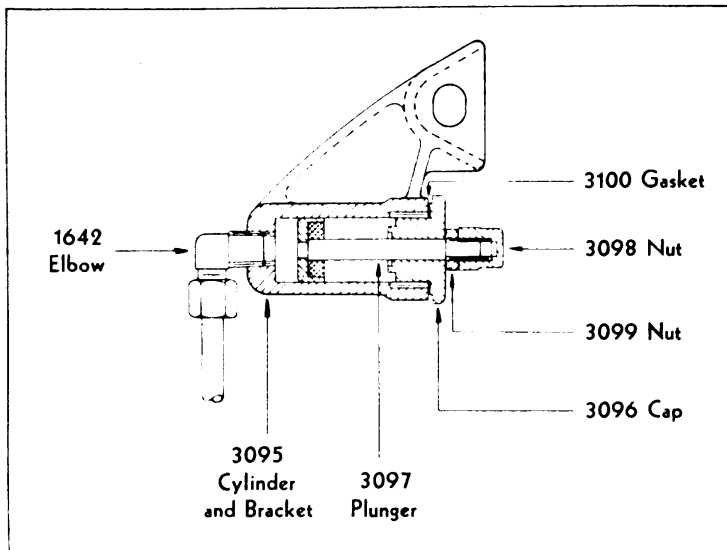

Figure 259
*Throttling device illustrated above is not available for service. If this part is defective, Part No. 3101 Throttling Device should be ordered. The No. 2991 Bracket (illustrated above) is used only with the old style throttling device. The bracket for the new style throttling device is included in the No. 3101 Assembly (see Figure 259).